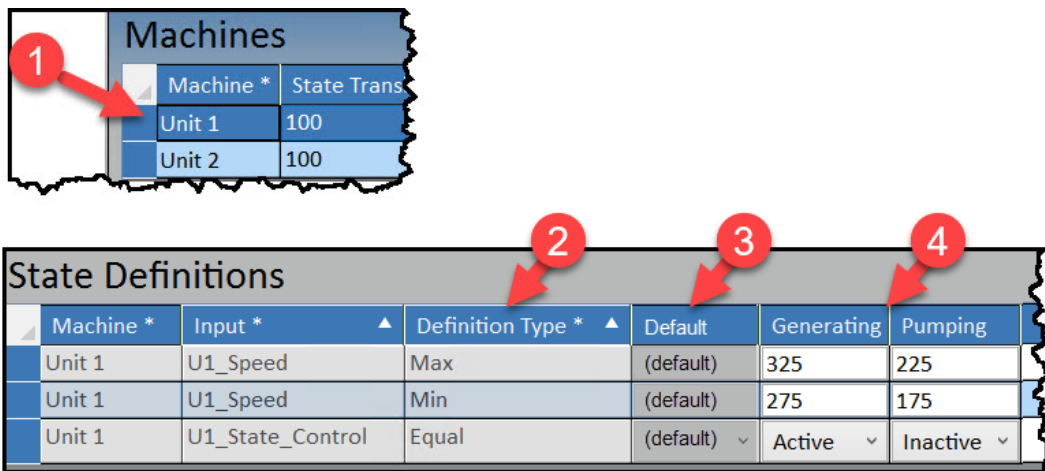

Figure 9-9) State Definitions
Follow these steps to define the states for your machine-state logic (see **Figure 9-9**).
4. Add parameters for the other machine-states here. For example in **Figure 9-9**, the Generating state requires the Discrete Input to be Active, and a speed from 275-325 RPM. To go into the Pumping state, the Discrete Input must change to Inactive and the speed must be 175-225 RPM. All other conditions will result in the Default state.
The Definition Types (**Figure 9-9**, Item 2) for each input are explained in the table below.